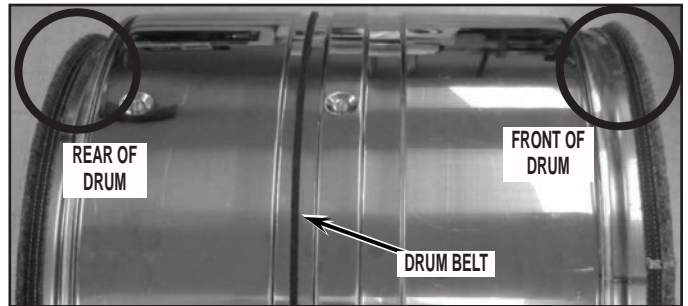

FIGURE 17
**IMPORTANT:** Note position of drum belt, front and rear orientation for reassembly. The drum front opening is larger than the rear drum opening. See *Figure 17*.